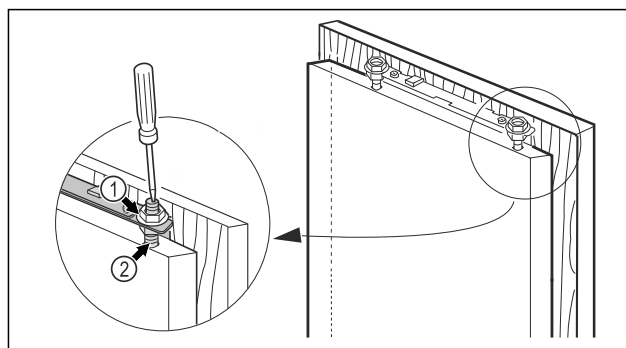

Fig. 23
- Tighten the lock nuts Fig. 23 (1) with a hexagon wrench 13, holding the adjustment bolt Fig. 23 (2) with a screwdriver.